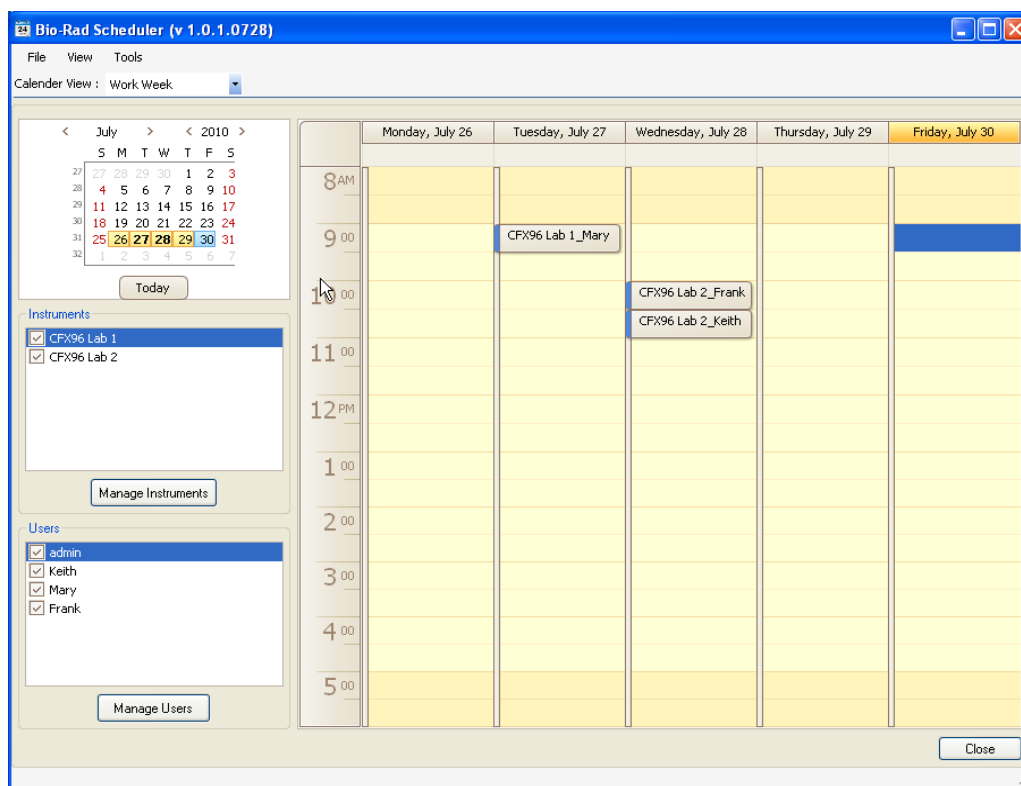

Figure 15. Scheduler main window.
2. To add a new instrument, select **View > Instrument Details** or click the **Manage Instruments** button below the Instruments list (Figure 15) in the scheduler main window. In the Instrument Details window, enter the instrument name in the Name column. Choose a model from the drop-down menu or leave it blank to schedule instrument types not listed. Entering base and optical head serial numbers is optional.